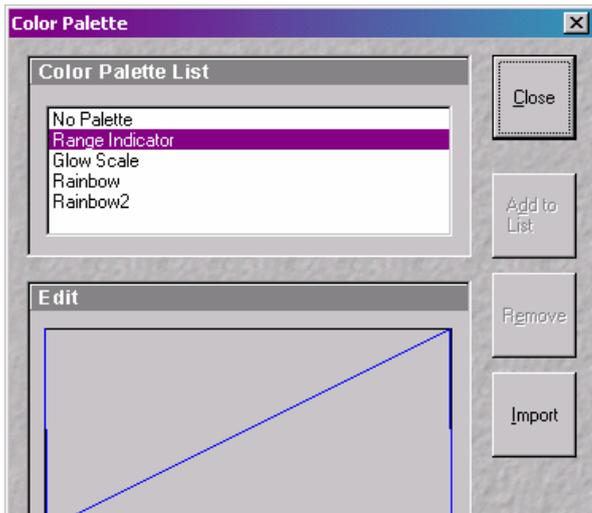

Fig. 23 Color Palette window
- In the **Color Palette List** panel, click on the **Range Indicator** item (Fig. 23).